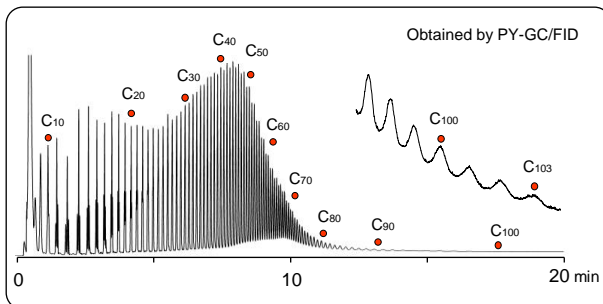

Fig. 2 Pyrogram of polyethylene
- Cold spots at the heat sink adapter and ITF are minimized to allow the detection of high-boiling compounds with high reproducibilities (Fig. 2).
Combining the heat sink adapter and septum cap ensures thermal uniformity of the joints between the pyrolyzer and GC, and this enables elution of higher boiling compounds of C_{100} . (see Fig. 2)